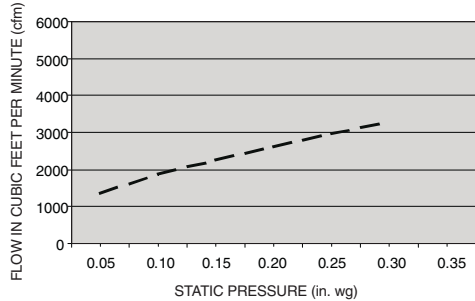

Fig. 34 — Vertical EconoMiSer2 Static Pressure (50TFF,TM004-007)
Step 7 — Adjust Evaporator-Fan Speed — Adjust evaporator-fan rpm to meet jobsite conditions. See Table 5 for fan rpm at motor pulley settings. See Table 6 for motor performance data. See Table 7 and Fig. 34 and 35 for static pressure information. Refer to Tables 8-29 to determine fan speed settings.